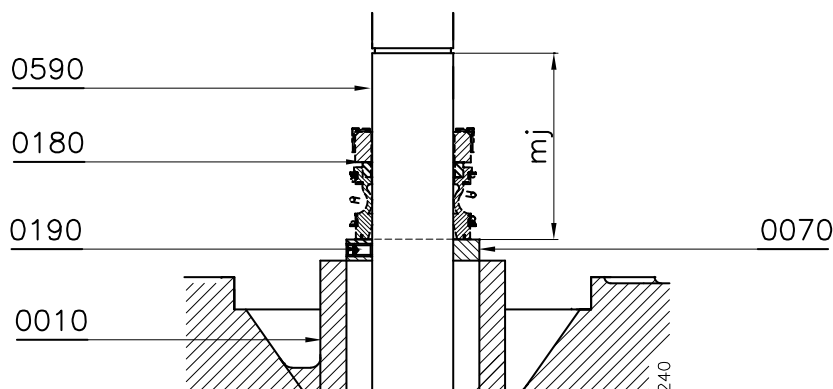

Figure 14: Distance mj.
- 1 Fit the set ring (0060) and lock this with the adjustment screw (0280), see figure 14. For the correct distance see the value **mj** in the table below: